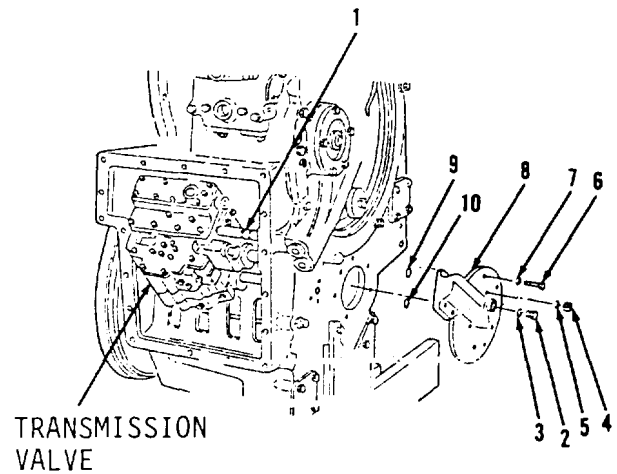
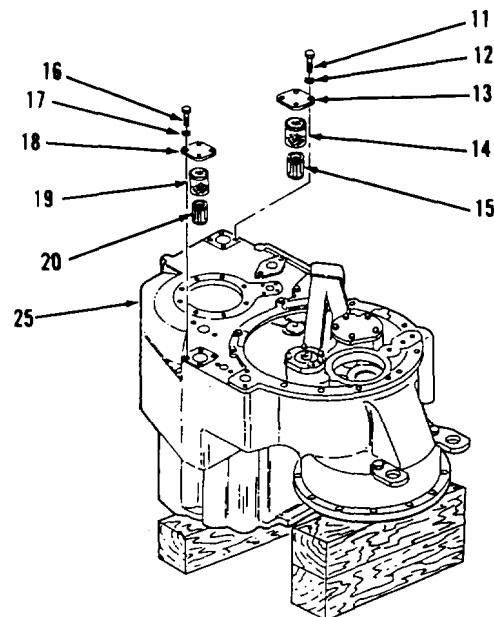

Figure 14-34.
Figure 14-35.
1. Remove four sleeves (1, Figure 14-34) by sliding out from transmission valve. Refer to paragraph 14-5, steps 3 thru 8.
2. Remove plug (2) and preformed packing (3) from lower section of transmission. Discard preformed packing (3).
3. Remove six nuts (4) and lock-washers (5).
4. Remove nine bolts (6) and lock-washers (7).
5. Remove support cover (8).
6. Remove and discard preformed packing (9).
7. Remove and discard three preformed packings (10).
8. Remove four bolts (11), washers (12), cover plate (13), filter screen (14) and magnetic assembly (15) in planetary housing (25, Figure 14-35).
9. Remove four bolts (16), washers (17), cover plate (18), filter screen (19) and magnetic assembly (20).